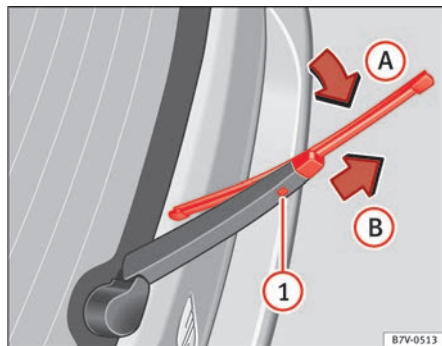

Fig. 159 Changing the rear wiper blade.
- Pull the wiper blade out of its mounting on the wiper arm ⇒ fig. 159 (arrow A).
- Hold down the release button ① while gently pulling the blade in the direction of the arrow B. This may require some strength. ▶
- Insert a new blade of the **same length and type** in the wiper arm in the opposite direction to the arrow (B) and hook into place. This feature is operational when the knob is in position (arrow A).